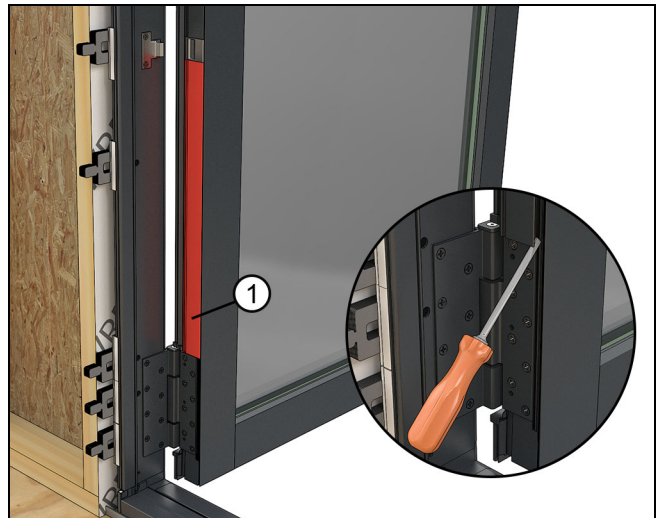
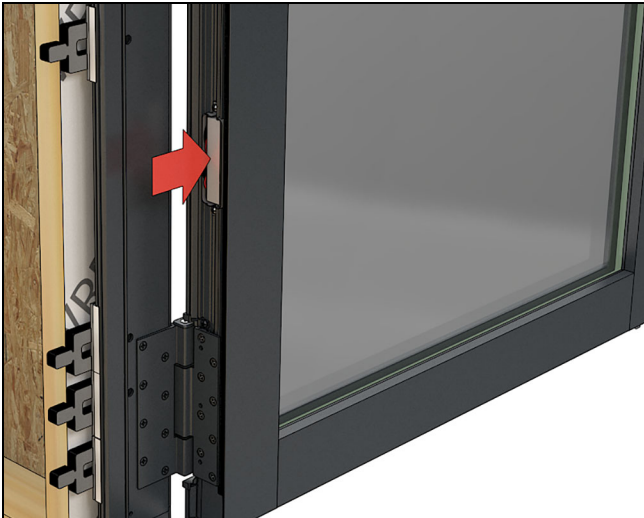

Figure 49
Figure 50
4. **MOD:** The transmitter housing is in the hinge stile above the bottom hinge. Remove the vinyl cover to access the transmitter housing. See Figure 49 and Figure 50.